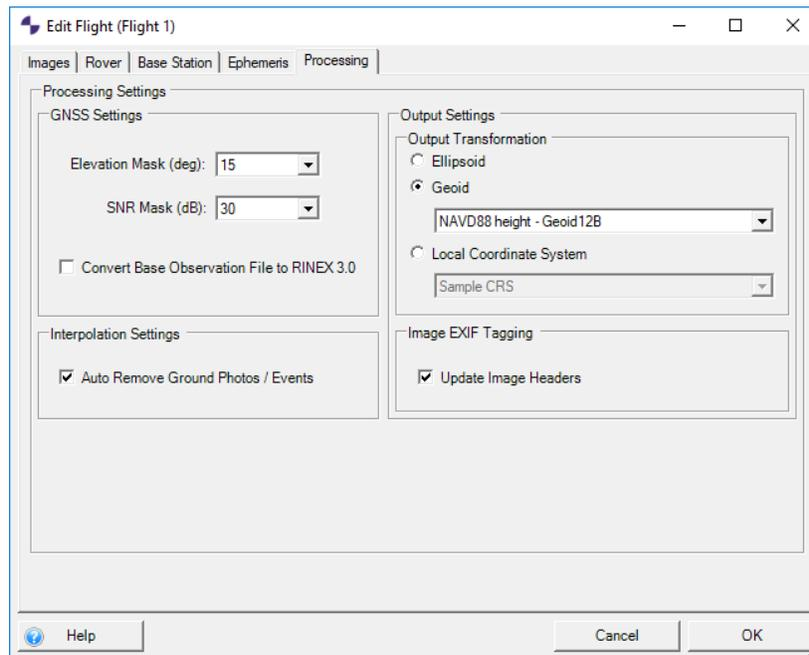

Figure 33 - Update Image Headers
8. Next click the Processing tab. Check the box next to Geoid if you wish to process relative to a Geoid. The drop-down menu allows you to select a Geoid model (Figure 33). Select Local Coordinate system if you wish to convert the image positions to a user-defined local coordinate system. If Ellipsoid is checked, the data will be processed using ellipsoid heights (or the height entered as the base coordinate). Using a Geoid allows the user to convert the ellipsoid heights in the images.txt file and the image header GPS coordinates to Geoid heights using the selected Geoid mathematical model in the dropdown box. Typically, GPS units are in WGS84 Ellipsoid, so this box is unchecked by default.
9. The elevation mask can be changed by selecting the drop-down menu (Figure 33). Elevation mask is used to filter satellites low on the horizon, which can cause interference and reduced accuracy. Usually, it is best to start with the elevation mask set at 15, and then raise or lower it if necessary. Getting all Q1 events during the Event Diagnostics phase is the correct result. This means that there is fixed (2cm or less) accuracy. If there are Q2 or Q5 events, then it may be necessary to check for missing/incorrect files or adjust the elevation mask and reprocess. For more information regarding GNSS quality levels, see ASPSuite: GNSS Quality Levels Explained.
10. *Update Image Headers* (Figure 33), if checked, will write the image positions to the image files (EXIF data). A copy of the original photos will be made and placed in a separate folder named *Originals*. If the box is unchecked, only a text file will be created with the image positions.
11. Check *Auto Remove Ground Photos/ Events* if you want ASPSuite to automatically remove ground photos and events (Figure 33). If not removed automatically, ground photos and events will need to be removed manually using the event repair tool. **Note:** Any photos eliminated during the *Auto Remove Ground Photos/Events* process will be moved to the *Originals* folder.